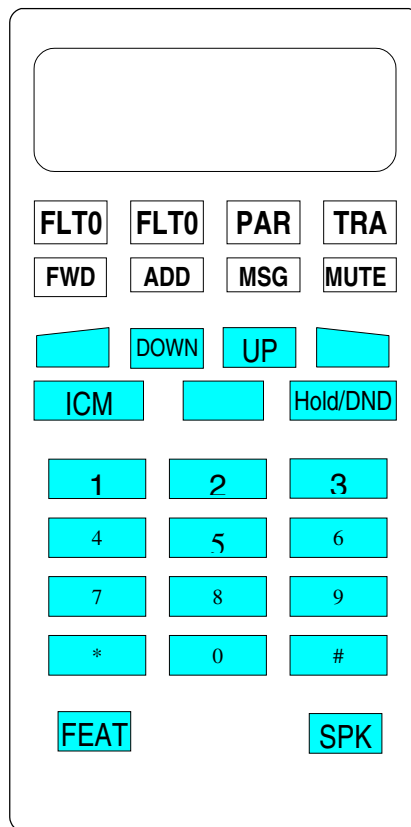

Figure 43. IX-PS6 Portable Station Default Key Pattern
5. Use a Phillips head screwdriver to place the screw and spacer in the wall as indicated in Figure 43.